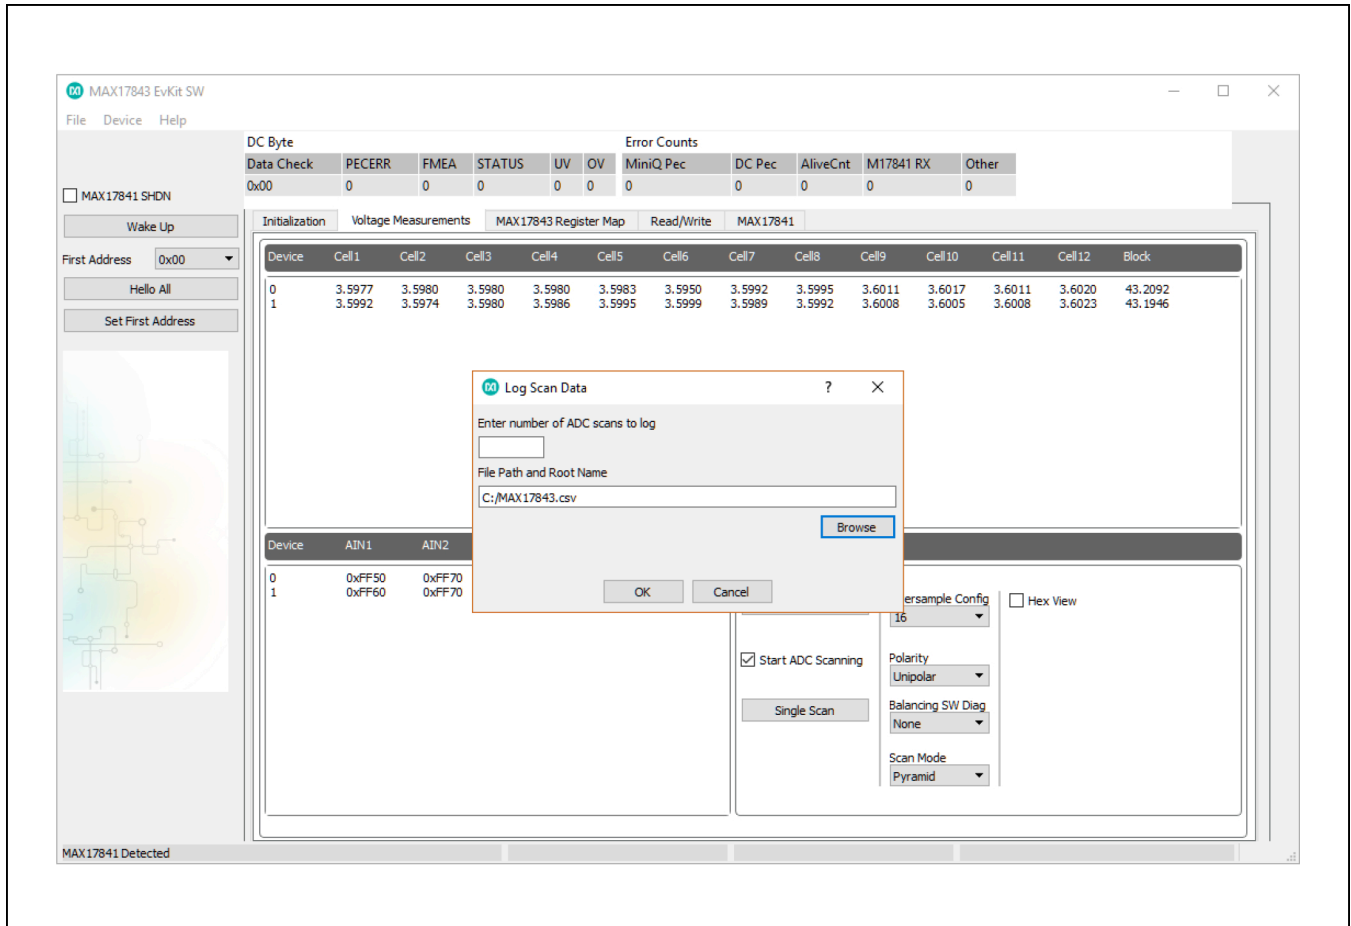

Figure 11. MAX17843 Evaluation Kit Software (Voltage Measurements Tab—Enter Number of Scans and Choose File Path Dialog Box)
- Enter the number of ADC scans to log and the file path and root name (Figure 11), then click the **OK** button.